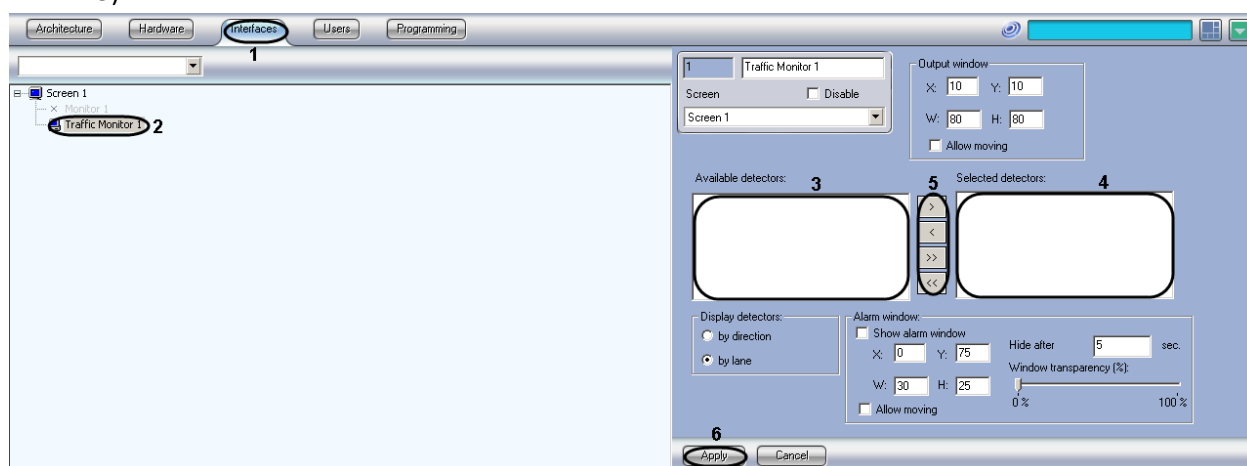

Fig. 7.8—2 Selecting the detectors
4. Click the  button to move the selected item to the Selected detectors list (see Fig. 7.8—2, 4-5).
5. Click «Apply» to save the changes (see Fig. 7.8—2, 5).